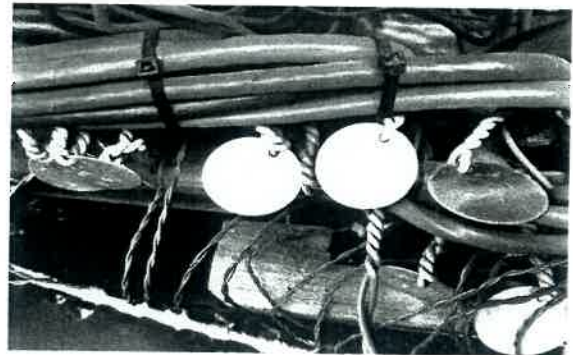

Figure-4
7. The Cables terminated on Location Box shall be identified by punched labels / Cable Identification Tag tied on each end of the cable for correct identification. (Annexure-A, Figure-4)
5. The Cables terminated on CT rack shall be identified by punched labels/ Cable Identification Tag tied on each end of the cable for correct identification. (Annexure-A, Figure-4).
**(C) Periodical Verification & Validation :-**